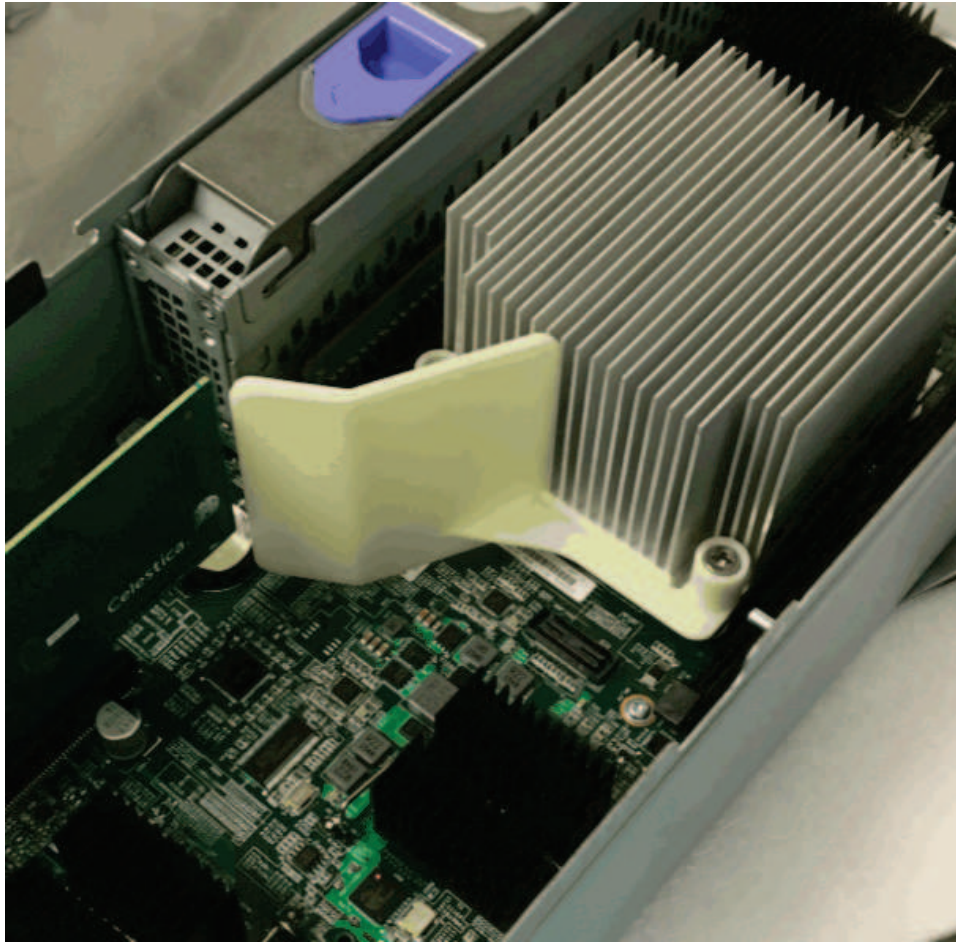

Figure 44. Locating the air baffle
3. Some node canisters, such as a Storwize V7000 2076-624 or a Storwize V7000 2076-U7A canister, contain an air baffle that is mounted on the rear side of the CPU heat sink (Figure 44 on page 184).